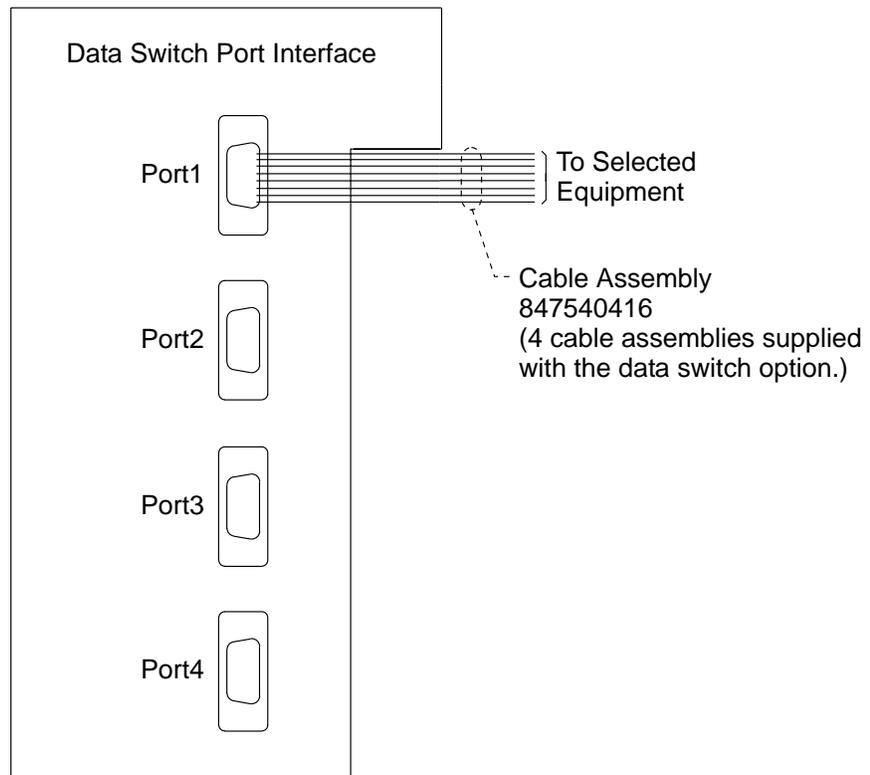

Figure 3-8: Data Switch Interface Card
2. The Data Switch Interface card contains four DB9, 9-pin serial port plugs for wiring to the connecting devices. See Figure 3-8 and Table 3-J. Complete wiring from this interface to the connected RS232 device(s) as shown in Figures 3-9, 3-10, 3-11, and 3-12.